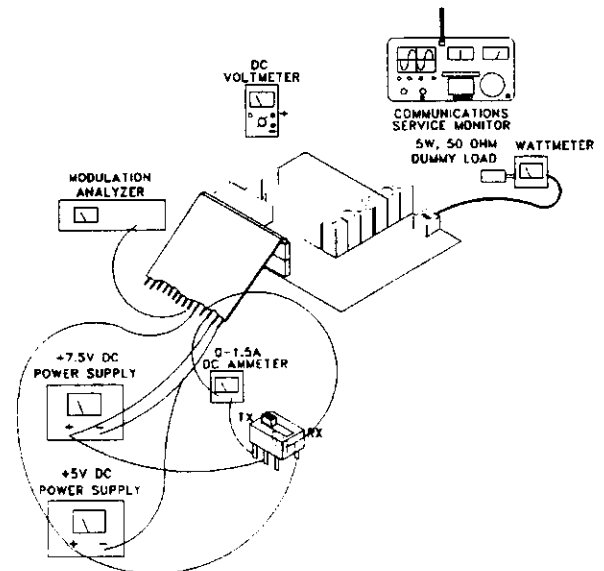

Figure 6-1 TRANSMITTER TEST SETUP
1. Connect the test setup shown in Figure 6-1. Set the power supply for +7.5V DC. See Figure 2-1 for interface cable.
1. Connect the test setup shown in Figure 6-1. A DC ammeter capable of measuring up to 1.5A should be installed in the supply line.